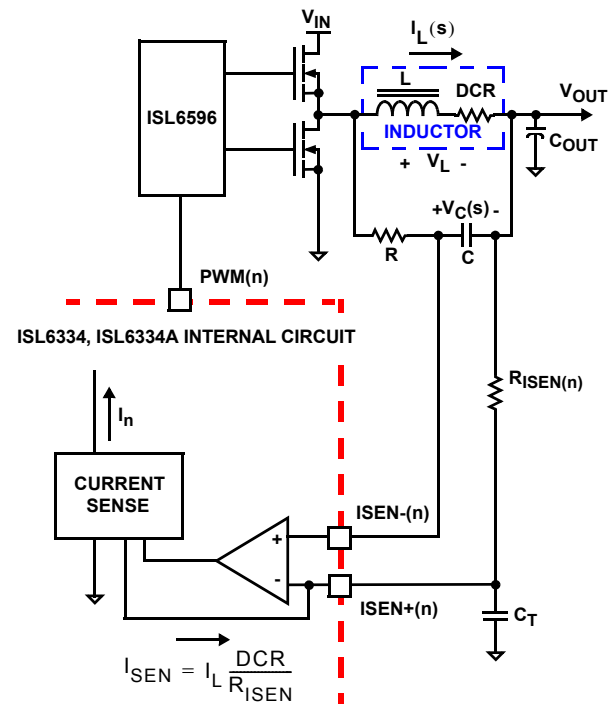

FIGURE 8. DCR SENSING CONFIGURATION
The internal circuitry, shown in Figures 8 and 9, represents one channel of an N-channel converter. This circuitry is repeated for
An inductor's winding is characteristic of a distributed resistance, as measured by the DCR (Direct Current Resistance) parameter. Consider the inductor DCR as a separate lumped quantity, as shown in Figure 8. The channel current I_L , flowing through the inductor, will also pass through the DCR. Equation 4 shows the s-domain equivalent voltage across the inductor V_L .
A simple R-C network across the inductor extracts the DCR voltage, as shown in Figure 8.
The current sense circuitry operates in a very similar manner for negative current feedback, where inductor current is flowing from the output of the regulator to the PHASE node, opposite of flow pictured in Figures 8 and 9. However, the range of proper operation with negative current sensing has a limitation. The worst-case peak-to-peak inductor ripple current should be kept less than 70% of the OCP trip point (internal mirrored current = $\sim 70\mu\text{A}$). Care should be taken to avoid operation with negative current feedback exceeding this threshold, as this may lead to momentary loss of current balance between phases and disruption of normal circuit operation. Note that the negative current can especially affect coupled inductor designs, where the effective inductance is the leakage between the two channels, much lower than the specified mutual inductance (LM). To limit the impact, a higher R_{ISEN} value (1.5x to 2x) can be used to reduce the effective negative current seen by the controller in coupled inductor designs. Refer to Intersil's application note, AN1268 for a detailed coupled inductor discussion and ripple current calculation.